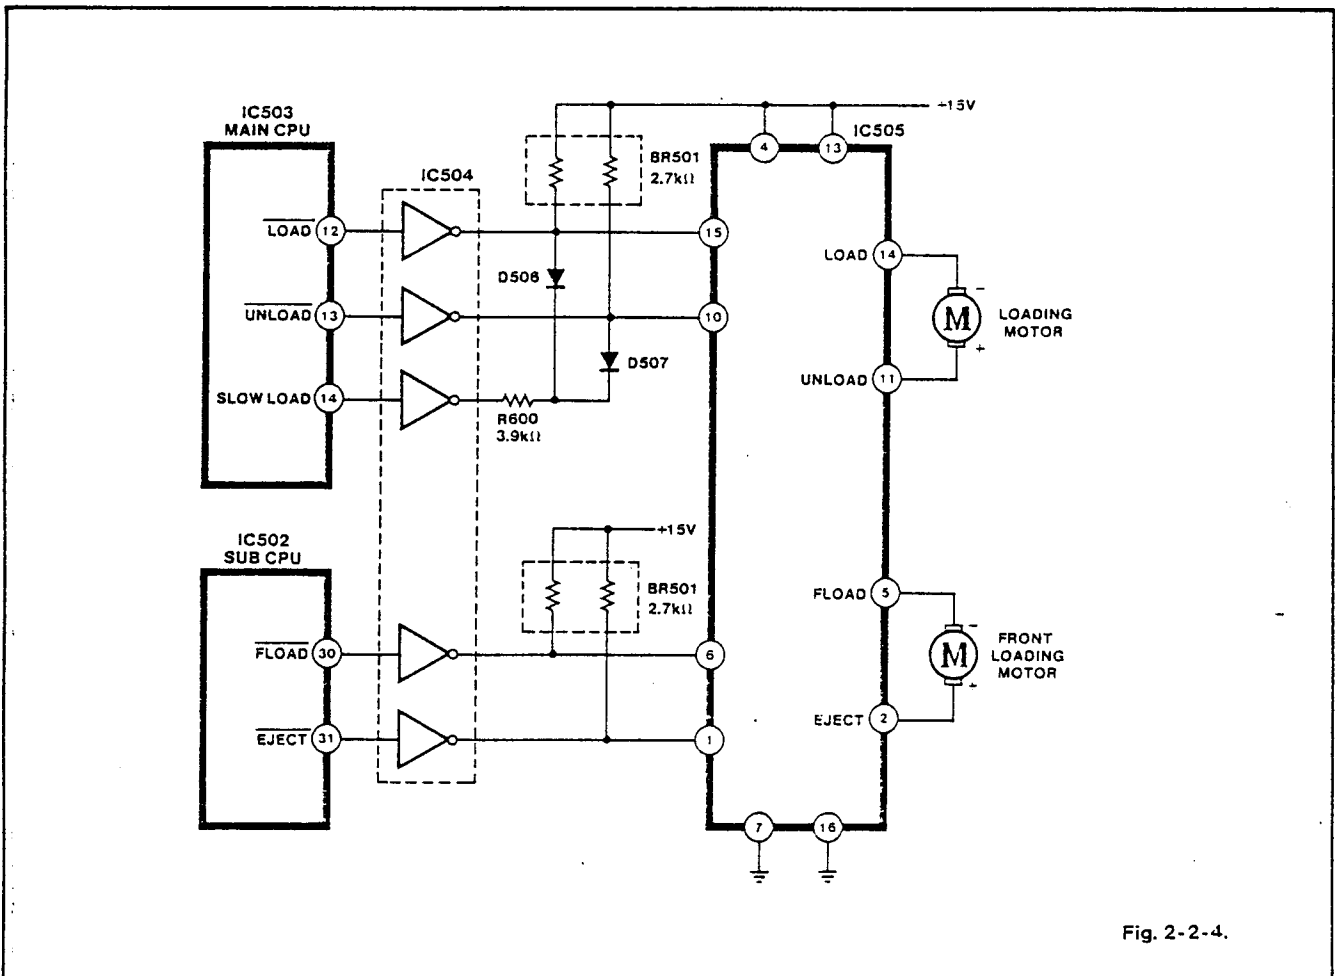

Fig. 2-2-4.
2. LOADING MOTOR, FRONT LOADING MOTOR DRIVE CIRCUIT (See Fig. 2-2-4)